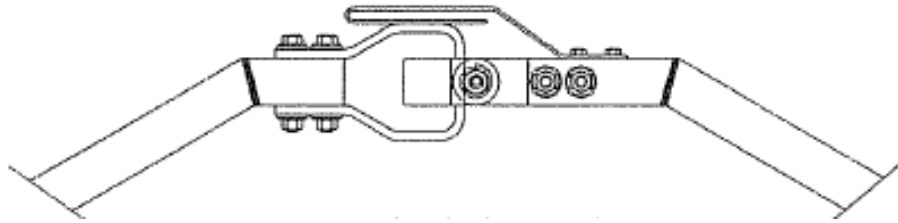

Figure 3: Attach Arcing Horns as Shown
9. If arcing horns are used, refer to **Figure 3** and the unit assembly drawing for installation. Arcing horns should rub against the male contact with enough pressure to maintain contact but not so hard as to cause binding. The horns can be bent if necessary to achieve proper contact.
2. **Field Assembly** – If arcing horns are used, refer to the unit assembly drawing and Figure 3, and bolt on this equipment.